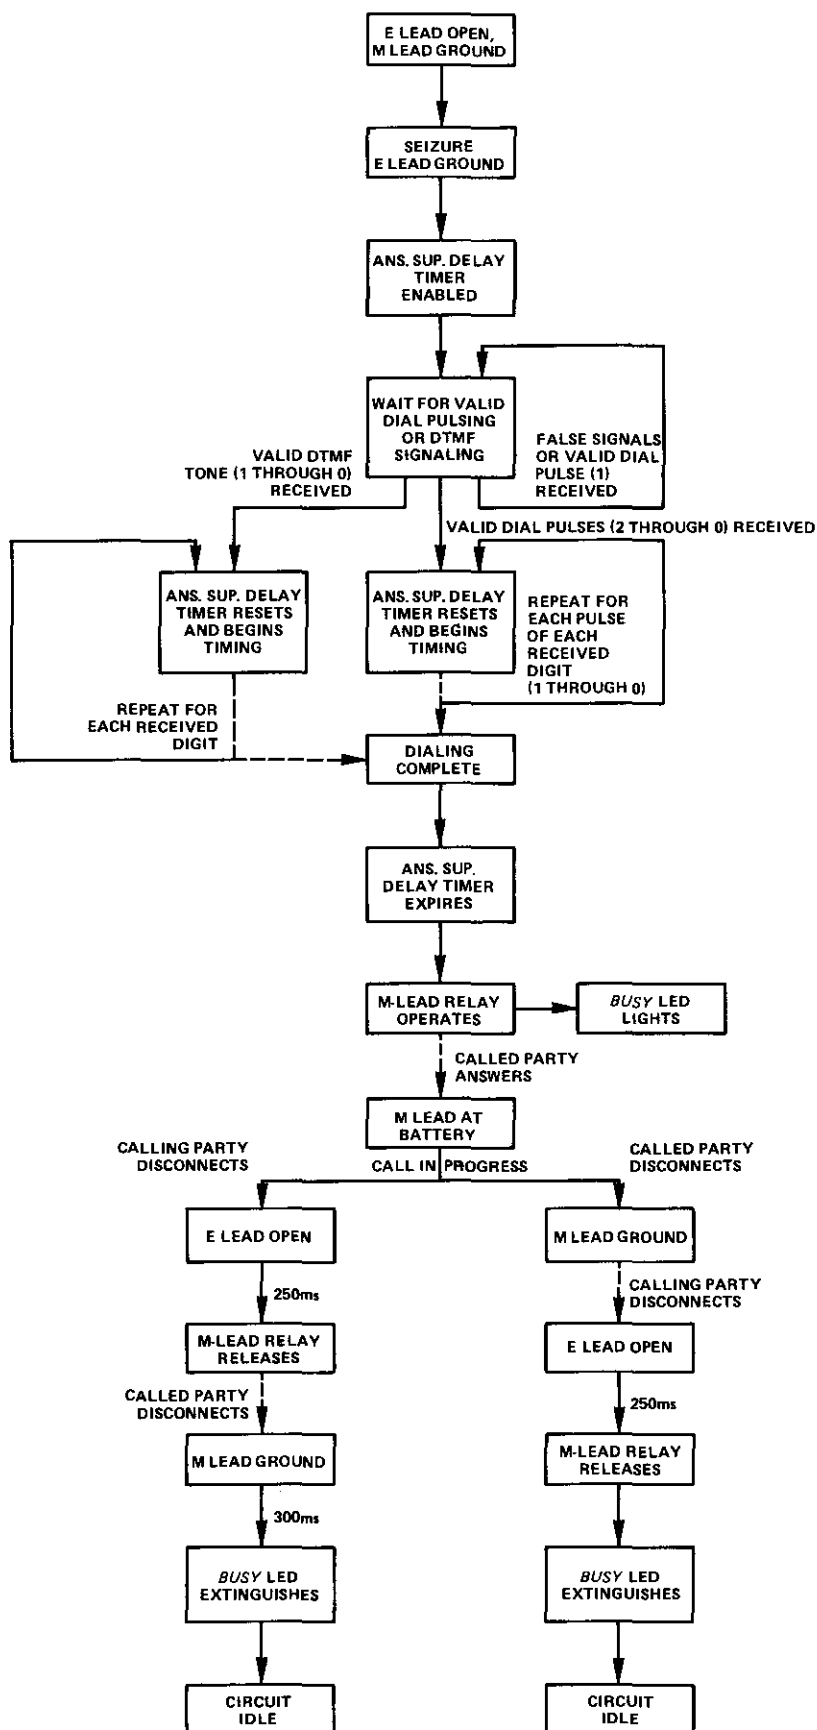

figure 4. Operation of 6271 module during incoming call (normal Type I E&M).
4.01 To provide the clearest possible understanding of the operation of the 6271 Tie Trunk Answer Supervision Module, function sequence flowcharts (figures 4 and 5) that illustrate sequential operation of the module on incoming and outgoing calls are presented in lieu of a more conventional circuit description. Horizontal paths identify events occurring simultaneously, and vertical paths denote sequential events. Dotted lines indicate elapsed time. These charts can be used to determine whether a module is performing normally by observing the module's response and comparing it to that shown in the chart. Reference to the 6271 functional block diagram (section 5 of this Practice) may aid in understanding the sequence charts.